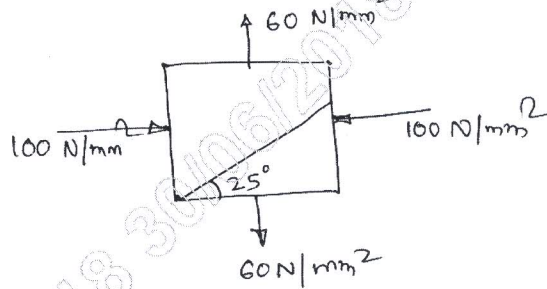

Fig. Q3 (b)
- b. The direct stresses at a point in a strained material are 100 N/mm^2 and 60 N/mm^2 as shown in Fig. Q3 (b). Determine stress on the inclined plane AC. (10 Marks)